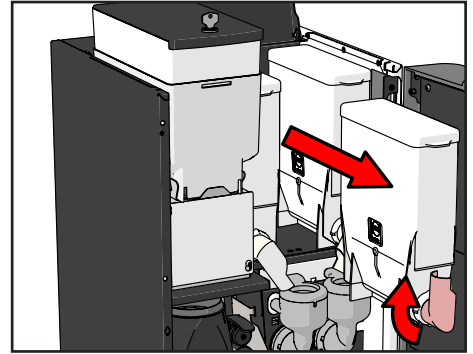

Figure 9.
4. Take the instant canisters out of the machine with the outlets turned upwards (see Figure 9).